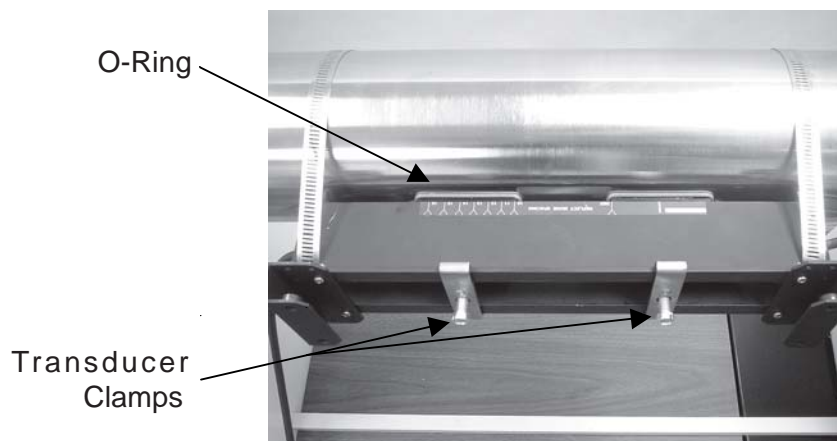

Figure 7
- Release O-Ring gaskets from their seats and allow them to contact the pipe by pushing the corners down with a screwdriver. Wipe away any excess couplant (Figure 7).